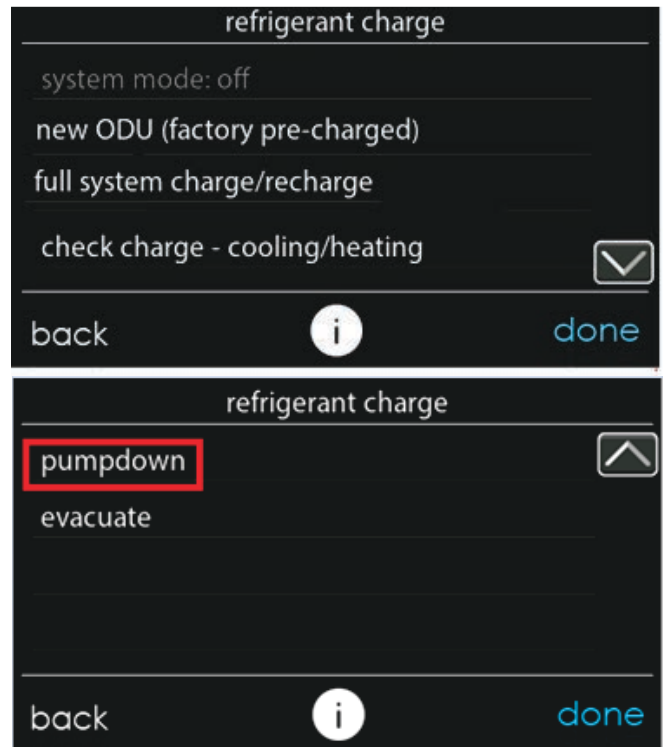

Fig. 25 – Pump Down and Evacuation Selection
2. In the “installation and service” menu of the Infinity® System Control (see Fig. 13), go to “refrigerant charging” and then “pump down” (see Fig. 14 and Fig. 25).